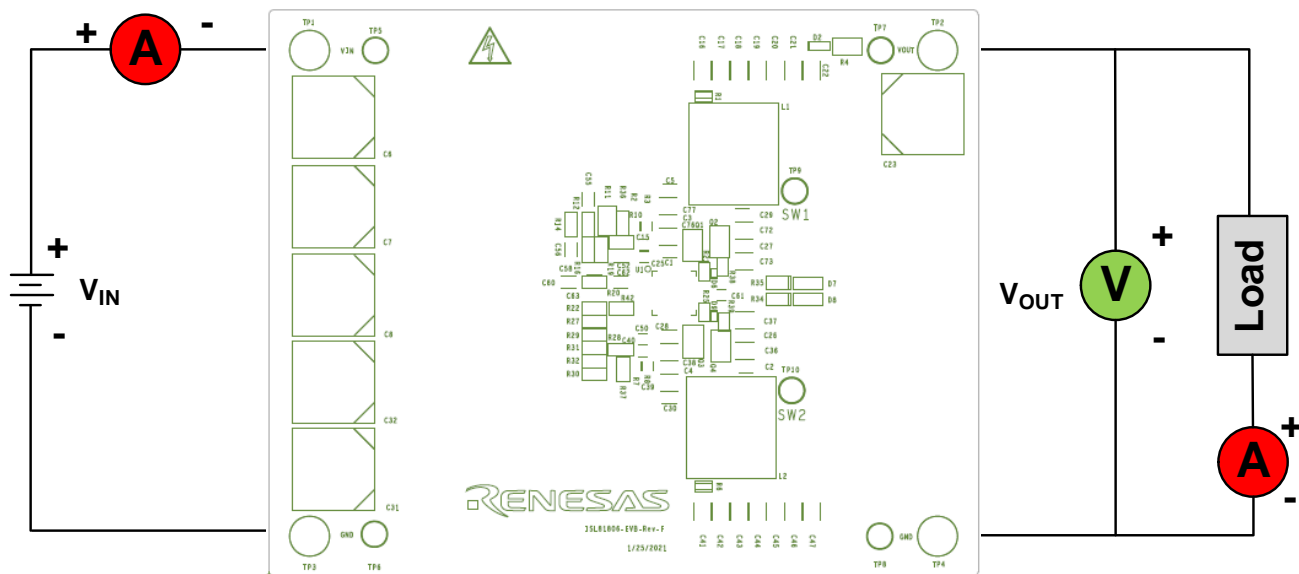

Figure 3. Proper Test Setup
As shown in Figure 3, 18V to 80V  $V_{IN}$  is supplied to VIN and GND. The regulated 12V output on VOUT and GND can supply up to 20A to the load. Because of the high power efficiency, the evaluation board can run at 20A continuously with airflow 1700LFM at room ambient temperature conditions.
1. Ensure that the circuit is correctly connected to the power supply and electronic loads before applying any power. See Figure 3 for the proper setup.